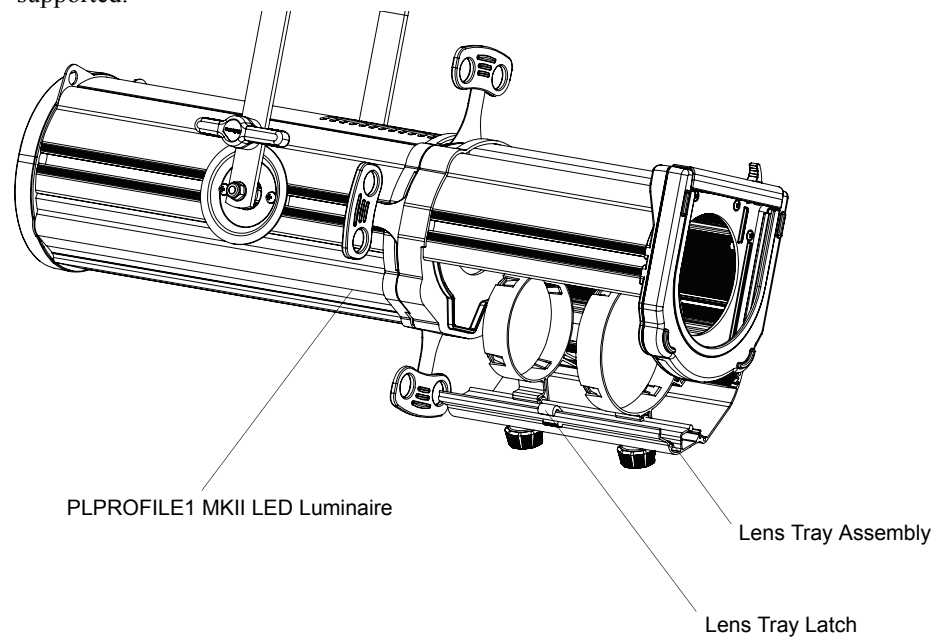

Figure 7: Lens Tray Assembly Removal
- Step 2. Unlatch lens tray as illustrated Figure 7. Be careful as the lens tray assembly will swing open if not properly supported.